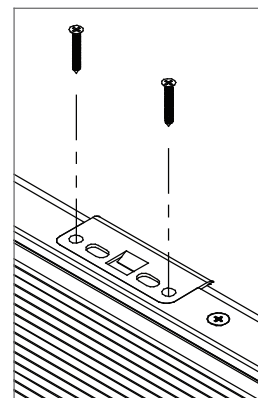

Figure 5
For added strength and security, remove the screws from the sill strike and replace with (2) #8 x 1-1/4" screws. See Figure 5.